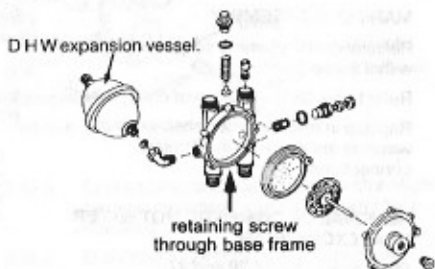

Fig. 38
See fig. 38
8.18.5 Remove manifold (fig. 38) gives details of further disassembly.
Refer to fig 38